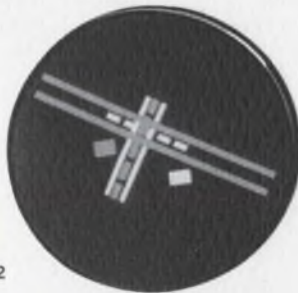

Fig. 2
In air-traffic control displays, for example, these CRTs could be used to provide quick and positive information on different altitudes or stacked aircraft problems. Different colors could be used to indicate various runways, holding patterns or air traffic lanes (see Fig. 2).
Fig. 2. TTL system simultaneously accepts an 8-bit binary addend (A), and 8-bit binary augend (B), adds and averages them and converts the result to Binary-Coded Decimal. BCD is a normal code for operating "Nixie" tubes, EL displays, digital displays and other types of CRT readout.
As in the air traffic pattern at left (Fig. 2.), different shapes and symbols may be used to differentiate between aircraft. Direction of flight travel or wind direction may be indicated by arrows or other appropriate symbols. An aircraft symbol may be accompanied by a numeric readout to indicate flight number and altitude as well as position. There's literally no limit to what you can do.
Fig. 2. Any number of elements may be combined into an uninterrupted large-board display like this air-traffic control pattern of an area of the Atlantic Ocean just east of Cape Cod. The outline of the Cape, airplanes and various aircraft in the vicinity are readily visible.
Microphonics — noise generated by mechanical motion of internal parts within a device—can also be a problem in doppler systems using low frequency i-fs. Figure 2 shows comparative microphonics output of a typical point-contact diode when subjected to shock, and a Sylvania Schottky diode when subjected to an equivalent shock. The figure speaks for itself: essentially no microphonics with the Schottky diode.